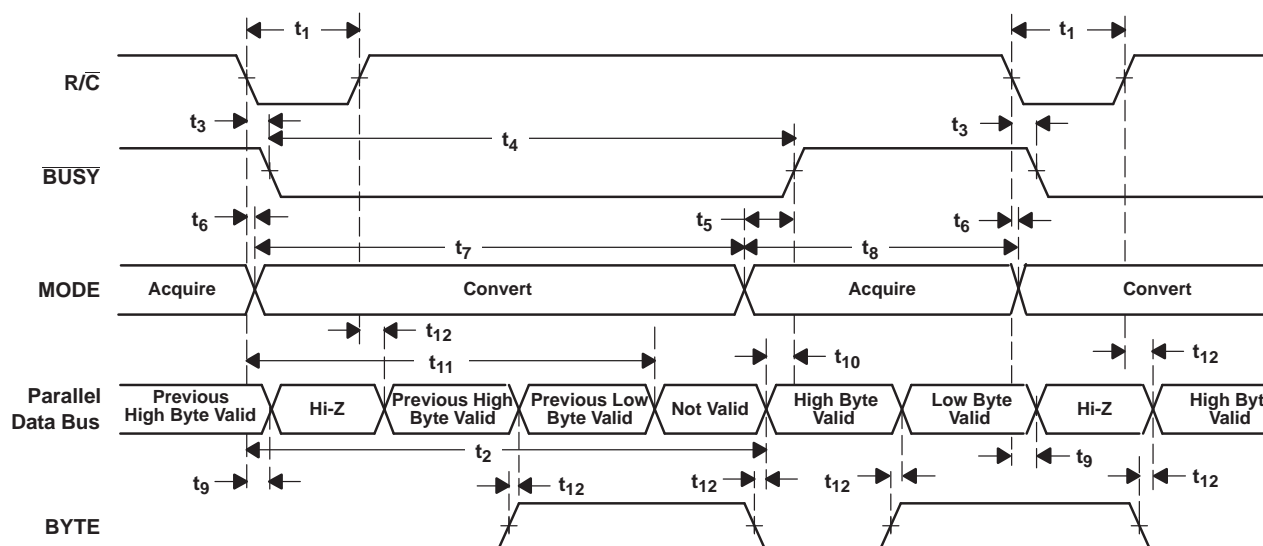
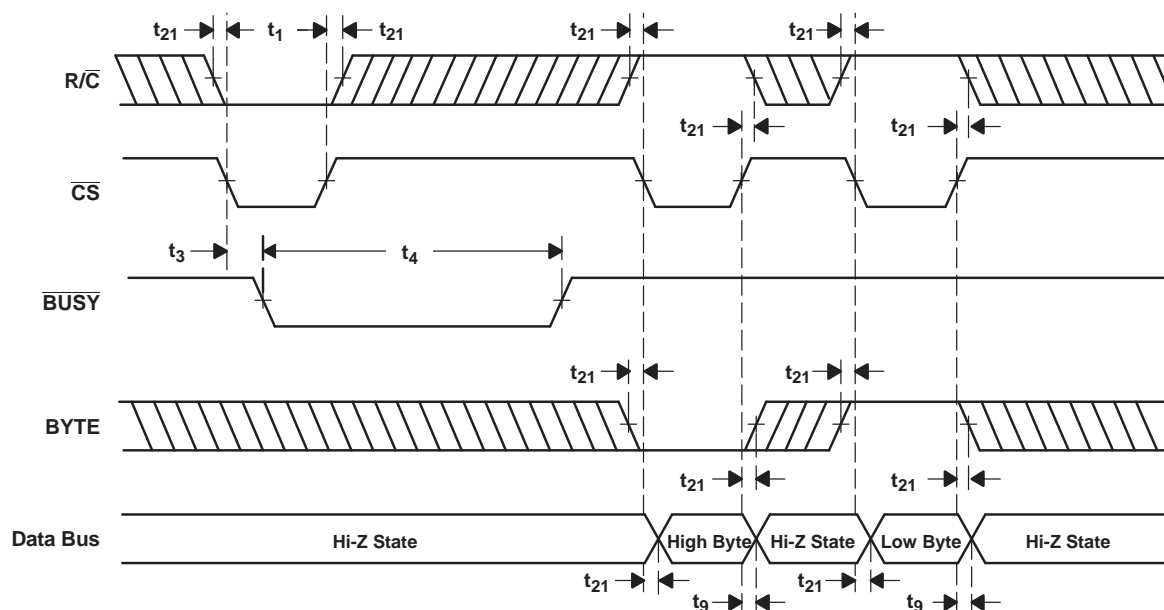

Figure 30. Conversion Timing With Parallel Output ($\overline{\text{CS}}$ and DATACLK Tied Low, EXT/INT Tied High)
Figure 31. $\overline{\text{CS}}$ to Control Conversion and Read Timing With Parallel Outputs
The ADS8517 begins tracking the input signal at the end of the conversion. Allowing 5 μs between convert commands assures accurate acquisition of a new signal. Refer to Table 2 and Table 3 for a summary of CS , $\text{R}/\overline{\text{C}}$, and BUSY states, and Figure 30 through Figure 36 for timing diagrams.
(1) See Figure 30 and Figure 31 for constraints on data valid from conversion $N-1$.
After conversion N is completed and the output registers have been updated, $\overline{\text{BUSY}}$ (pin 24) goes high. Valid data from conversion N are available on D7-D0 (pin 9-13 and 15-17). $\overline{\text{BUSY}}$ going high can be used to latch the data. Refer to Table 5, Figure 30, and Figure 31 for timing specifications.
After conversion N has been initiated, valid data from conversion $N-1$ can be read and are valid up to $2.2\ \mu\text{s}$ after the start of conversion N . Do not attempt to read data beyond $2.2\ \mu\text{s}$ after the start of conversion N until $\overline{\text{BUSY}}$ (pin 24) goes high; doing so may result in reading invalid data. Refer to Table 5, Figure 30, and Figure 31 for timing constraints.